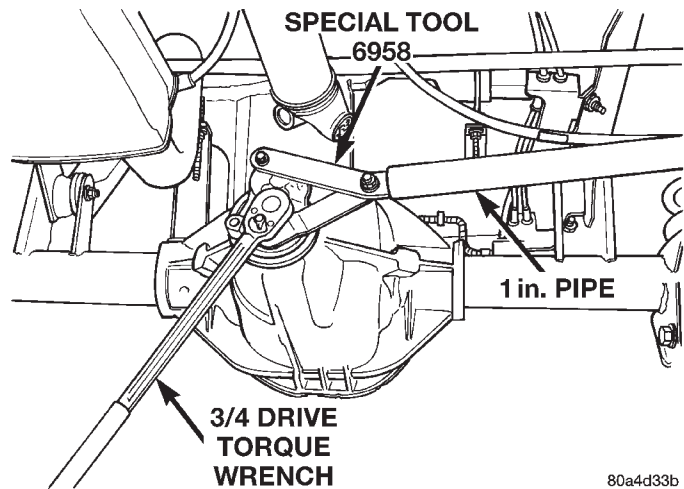

Fig. 11 Tightening Pinion Shaft Nut—Typical
(6) If the rotating torque is low, use Holder 6958 to hold the pinion yoke (Fig. 11), and tighten the pinion shaft nut in 6.8 N·m (5 ft. lbs.) increments until the proper rotating torque is achieved.